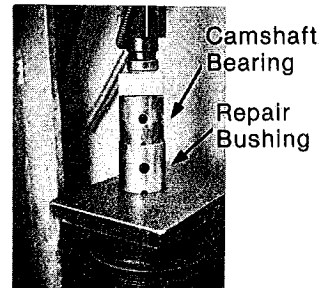

Fig 9 Installing cambearing in the Repair Bushing
1. Press the camshaft bearing into the Repair Bushing. Make sure the oil hole in both parts are aligned (fig 9).